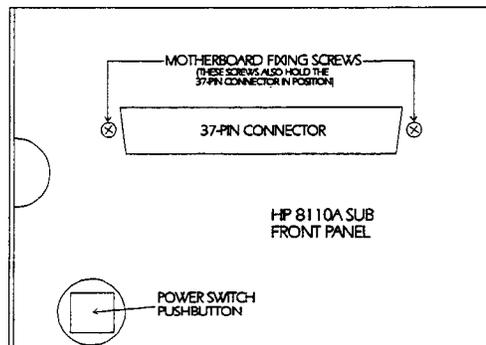

Figure 5-26.
5. Remove the 2 screws securing the Motherboard to the front of the chassis sub front panel (see Figure 5-26 for the position of these screws)